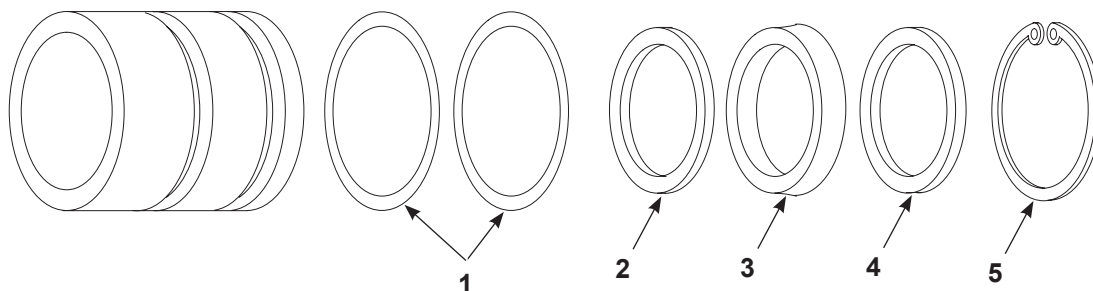

Figure 7-7 Packing Gland Service Kits
Item numbers are shown in Figure 7-7 in this section.
See Figure 7-7 for item 1 and Figure 7-3 for item 14. See Figure 7-4 for remaining items.
See Figure 7-7 for item 1. See Figure 7-4 for remaining items.